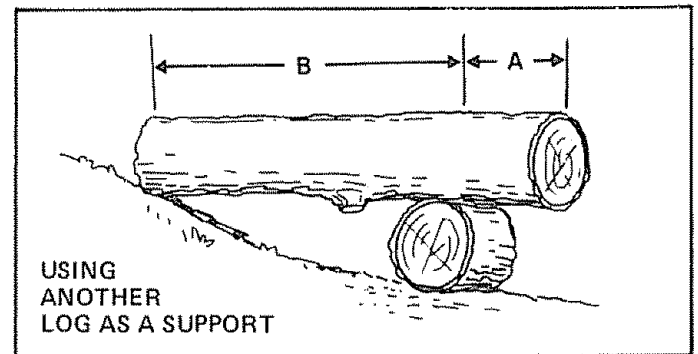

Figure 32
**2. BUCKING — USING ANOTHER LOG AS A SUPPORT (Figure 32):**